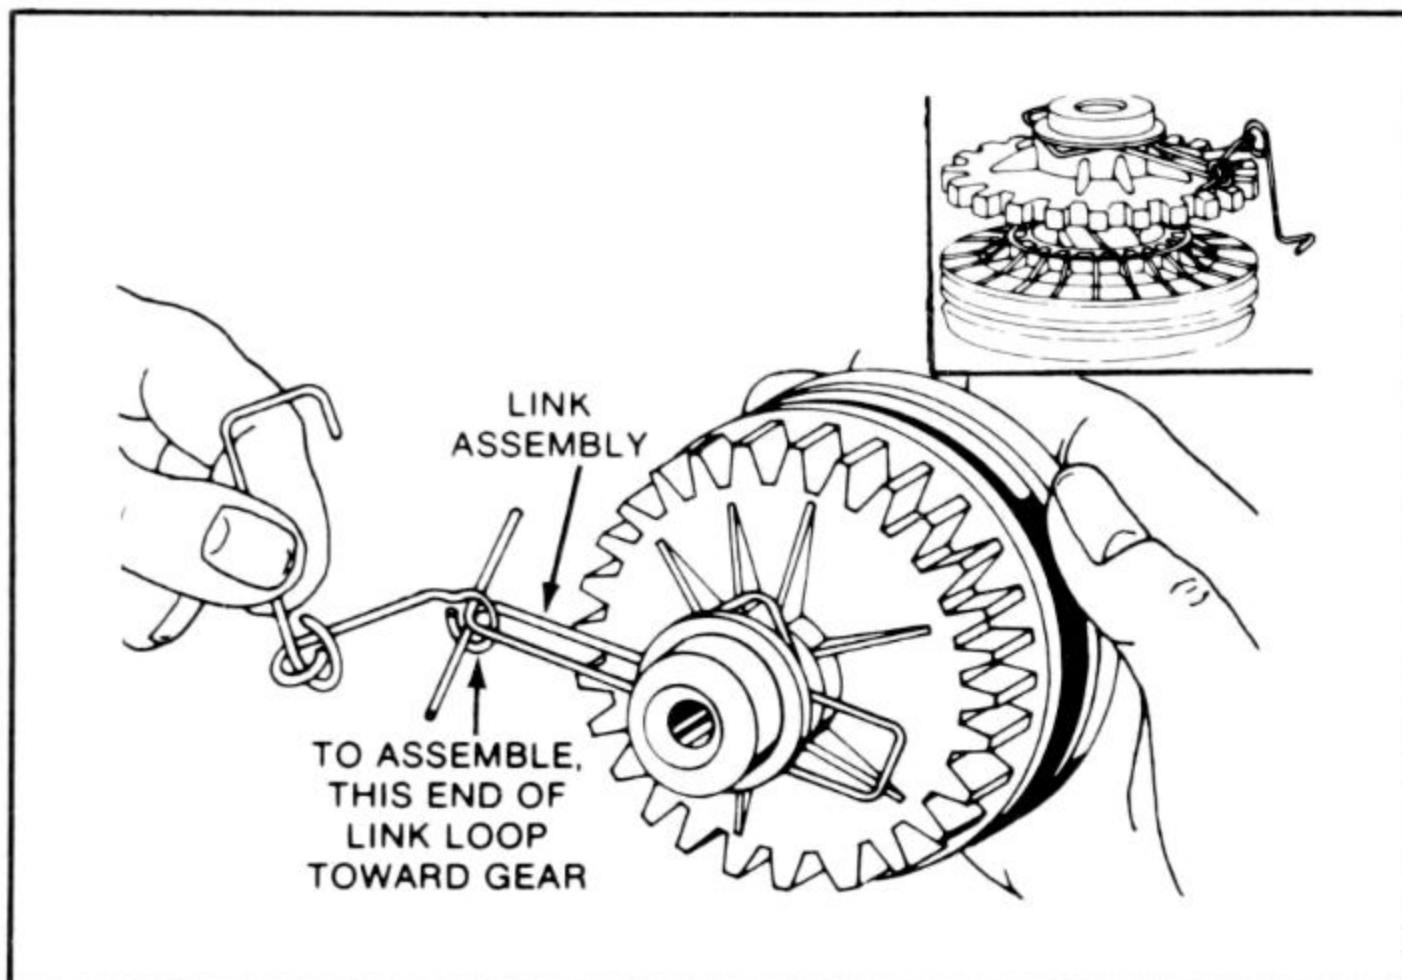

Fig. 4-24. Pinion gear should move through its full range of travel in response to link movement. Note orientation of link for assembly (inset).
9. Verify gear response to link movement as shown in Fig. 4-24. The gear should move easily between its travel limits. Replace link as necessary.